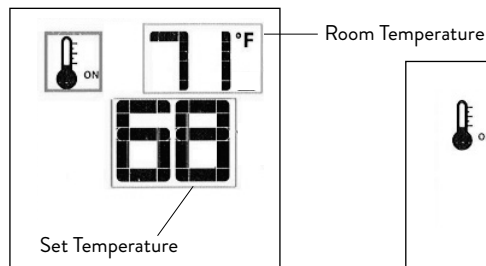

Figure 84. Thermostat ON.
- To activate this function, press the Thermostat Key. The display will indicate that the room thermostat is “ON” and the current Set Temperature is now displayed. Fig. 84.